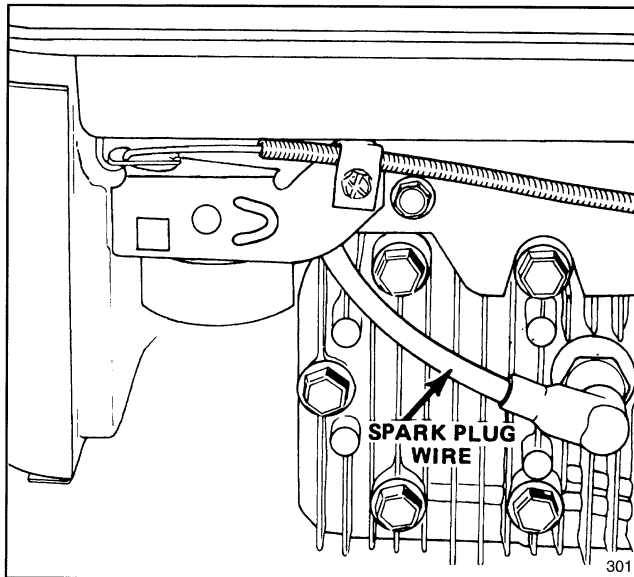

Figure 11
2. Push spark plug wire onto spark plug (Fig. 11).
1. Stop the engine and pull the wire off the spark plug (Fig. 11).
1. Stop engine and pull wire off spark plug (Fig. 11).
3. Set air gap at 0.030" (0.76 mm) (Fig. 11). Install correctly gapped spark plug and gasket seal. Tighten plug firmly to 15 ft-lb (20 N-m).